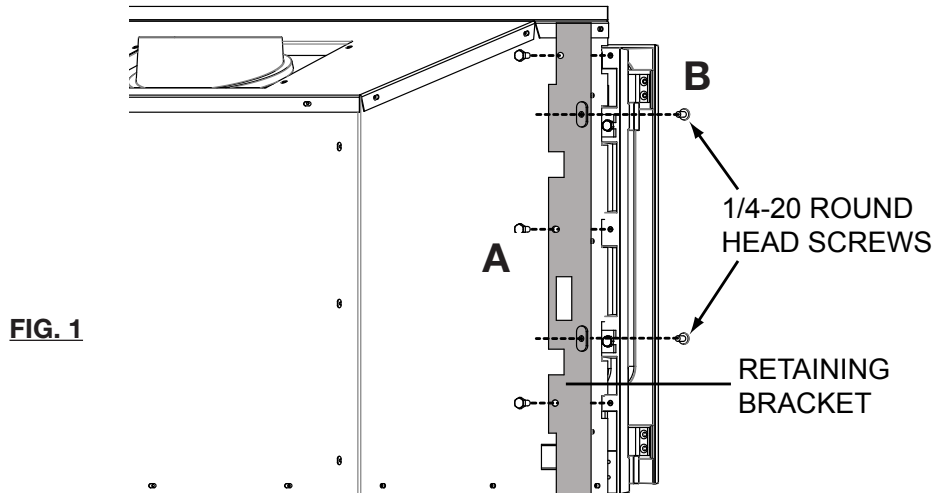

FIG. 1
- A. Line up the casting holes with the right retaining bracket holes and secure in place using the 1/4-20 hex-head screws. Repeat on the left side, using the left retaining bracket (FIG 1, A).
- B. Thread the 1/4-20 round-head screws approximately half their length into the keyed bracket (FIG 1, B).